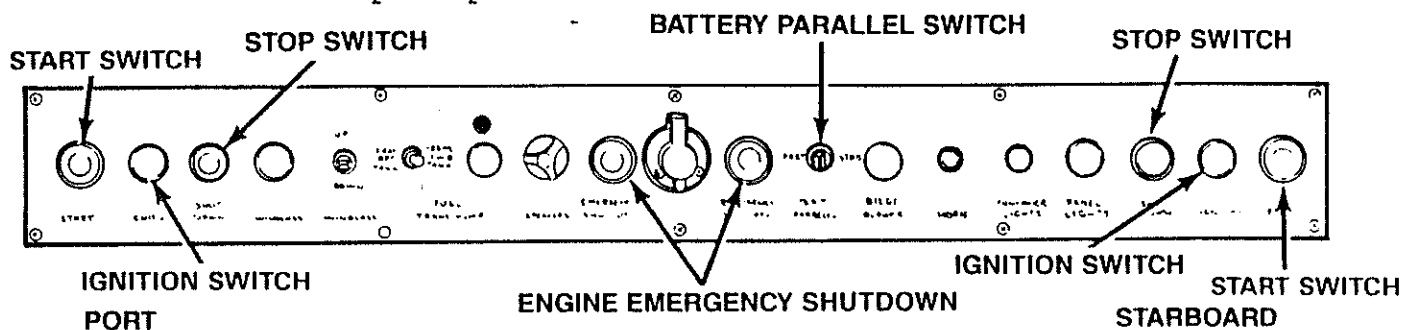

Figure 3-13 Bridge Switch Panel
3. See Figure 3-13. During engine starting, use the "BAT PARALLEL" switch if necessary. Set BAT PARALLEL switch to either "PORT" or "STBD" while depressing "START" switch. Release both switches when engine starts.
2. See Figure 3-13. Depress the "SHUTDOWN" switches to stop the engines. Hold switch until engine has stopped completely.
See Figure 3-13. You may want to run the bilge blowers for a few minutes after shut-down to remove heat from the engines and compartment.
9. See Figure 3-13. During engine starting, use the BAT PARALLEL switch if necessary. Operate BAT PARALLEL switch only while depressing the "START". Release both switches when engine starts.